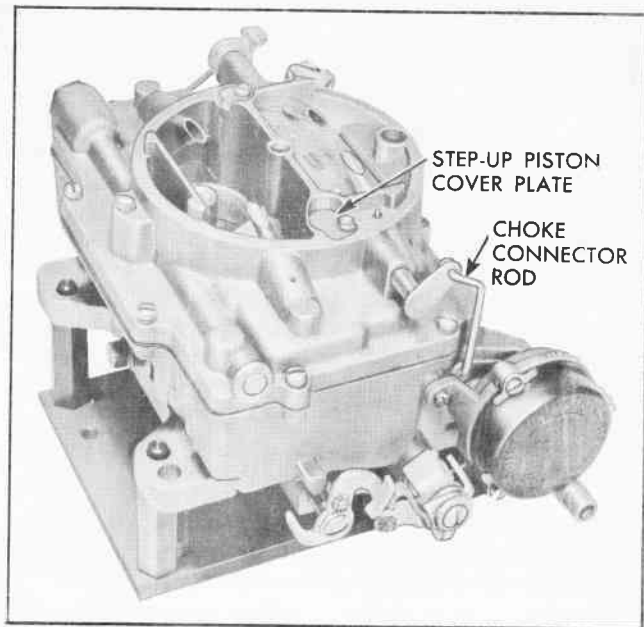

Fig. 8 Carter AFB Carburetor
4. Remove choke connector rod (Fig. 8).
5. Remove two step-up piston cover plate attaching screws and cover plates (Fig. 8).